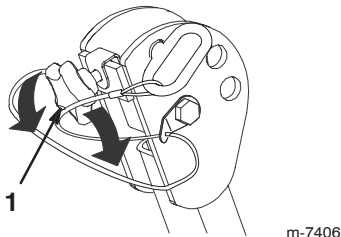

Figure 1
1. To lower the roll bar, loosen the front handles (Fig. 1).
7. Tighten the front handles against the center roll bar ends (Fig. 1).